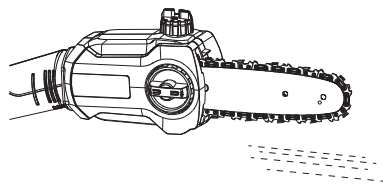

Fig. 15
1. Make sure the guide bar (19) and the saw chain (20) are in place when you check the oil delivery.
2. Start the product; keep it running at no load and check if the chain oil is delivered as shown in the figure (Figs.15, 16).